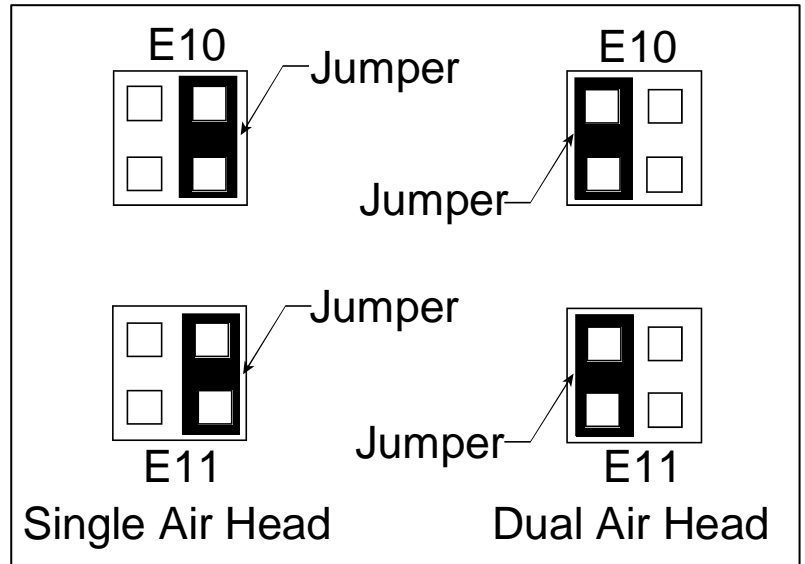

Figure 4-5. Weld Head Configuration Jumper Selection
- b There are two jumper headers, E10 and E11, located on the lower right hand area of the control printed circuit board. Re-jumper the headers to the dual air configuration as shown in figure 4-5.